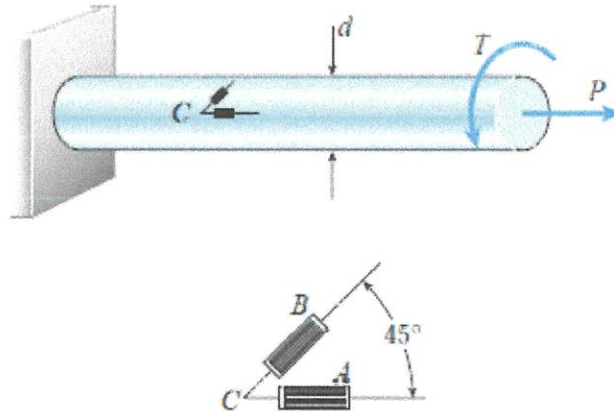

Figure Q1
- Q1** A solid circular bar of diameter $d = 38.1$ mm is subjected to an axial force P and a torque T as shown in **Figure Q1**. Strain gauges A and B mounted on the surface of the bar give readings $\epsilon_a = 100 \times 10^{-6}$ and $\epsilon_b = -55 \times 10^{-6}$. The bar is made of steel having $E = 206.8$ GPa and $\nu = 0.29$, determine: